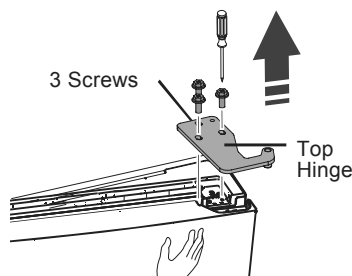

Figure 6
- 7 Remove the three screws from the top hinge and set hinge aside (see Figure 6).